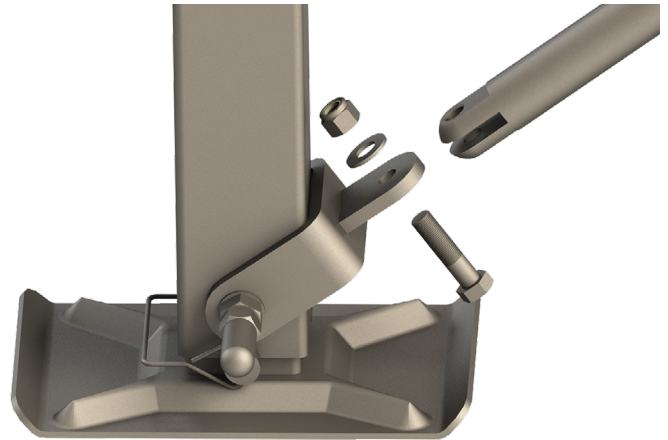

Fig.6
B. Reassemble stabilizer tubes with the inner tube sticking out past the end of the outer tube by 5". Tighten T-Bolts until snug (**Fig.6**).